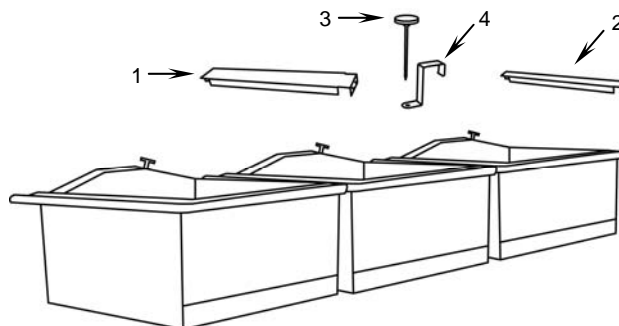

Figure 39. Heat Shield and Thermometer Assembly Removal.
- a. Remove sink coupler heat shields (**Figure 39, Item 1**) and the sink edge heat shield (**Figure 39, Item 2**).
- b. Remove the thermometers (**Figure 39, Item 3**) and thermometer brackets (**Figure 39, Item 4**) from the sinks.